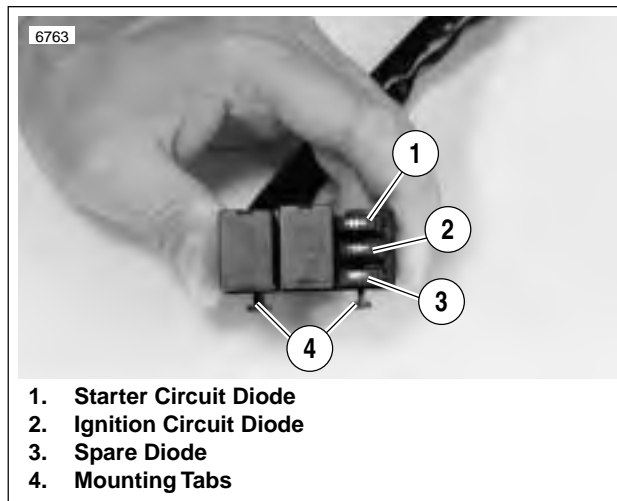

Figure 7-17. Diodes
See Figure 7-17 Both user replaceable diodes (1, 2) are mounted on the relay block under the tail section. One spare diode (3) is attached to the relay block.